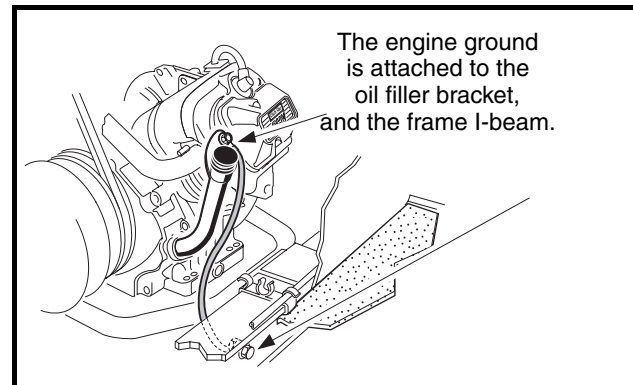

Figure 11-7 Test Engine Ground Strap
- 4.1. Place the red (+) probe of the multimeter on the ground strap terminal end located on the oil filler bracket on the engine (**Figure 11-7, Page 11-12**). Place the black (–) probe on the vehicle frame. The reading should be continuity. If the reading is incorrect, clean and tighten wire connections. If the connections are good and the reading is incorrect, repair or replace the wire.